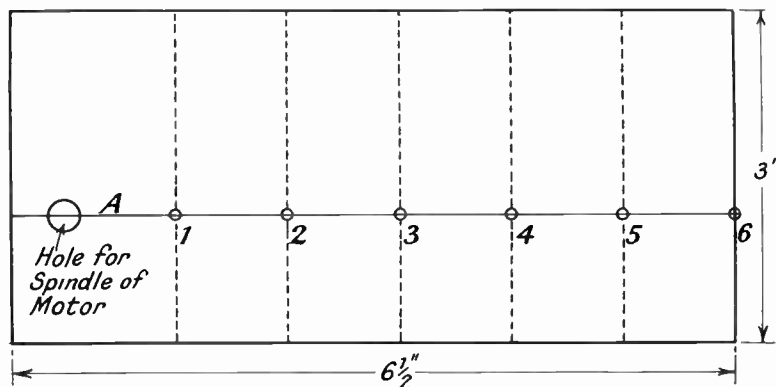

Fig. 10. — HOW TO MARK OUT THE TRACKING CARD.
1. Mark out a card as shown in Fig. 10.